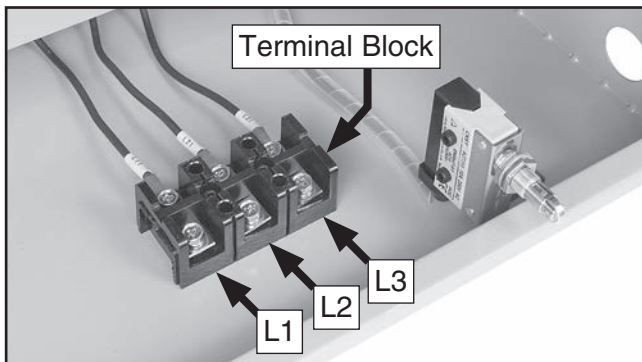

Figure 36. Electrical cabinet terminal block.
3. Connect incoming power wires to electrical cabinet terminal block (see **Figure 36**).